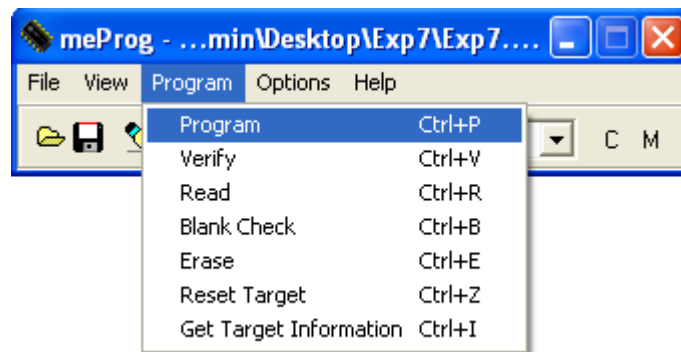

Figure 10 Installing the HEX file to the PIC ROM
Step 6: Finally press **Program**, then **Program** to install the selected hex file, as shown in (Figure 10).